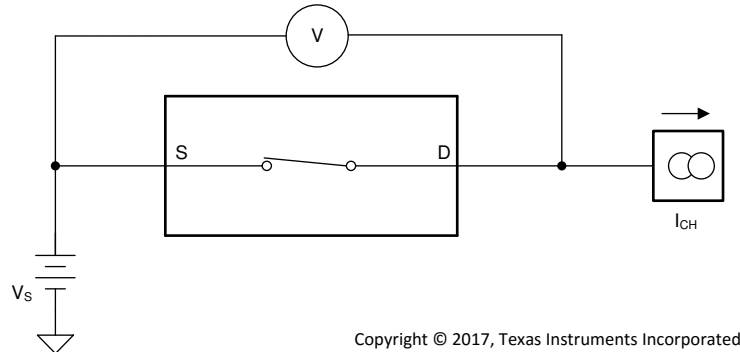

Figure 7-1. On-Resistance Measurement Setup
The on-resistance of the TMUX550x is the ohmic resistance across the source (Sx, SxA, or SxB) and drain (D, DA, or DB) pins of the device. The on-resistance varies with input voltage and supply voltage. The symbol R_{ON} is used to denote on-resistance. The measurement setup used to measure R_{ON} is shown in Figure 7-1. Voltage (V) and current (I_{CH}) are measured using this setup, and R_{ON} is computed as shown in Equation 1.